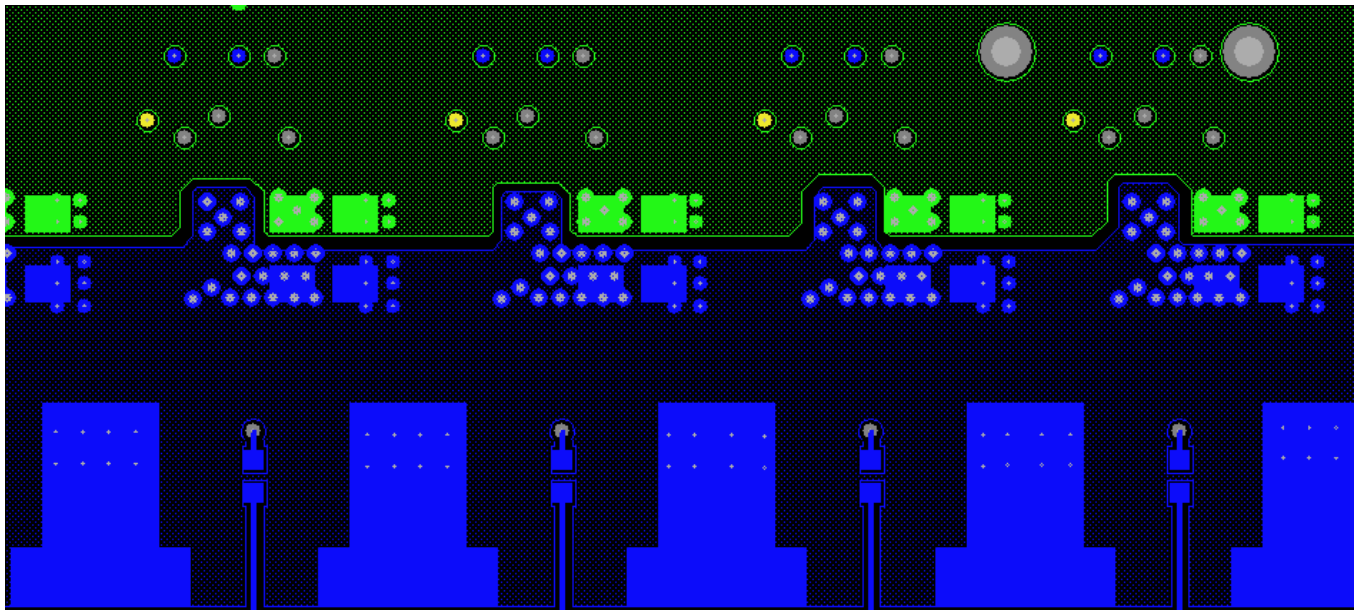

FIGURE 17. MULTIPHASE PCB LAYOUT EXAMPLE BOTTOM LAYER
- Place multiple 10 μ F or greater ceramic capacitors directly on the device between VIN and GND as indicated in Figure 15 on page 14. This is the most critical decoupling and will reduce parasitic inductance in the power switching loop. This will reduce overall electrical stress on the device as well as reduce coupling to other circuits. Best practice is to place the decoupling capacitors on the same PCB side as the device. For a design with tight space requirements, these decoupling capacitors can be placed under the device, that is, bottom layer, as shown in Figure 17 on page 15.
- The IMON and IREF network and their vias should not sit on the top of the VIN plane. A keep out area is recommended, as shown in Figure 17 on page 15.